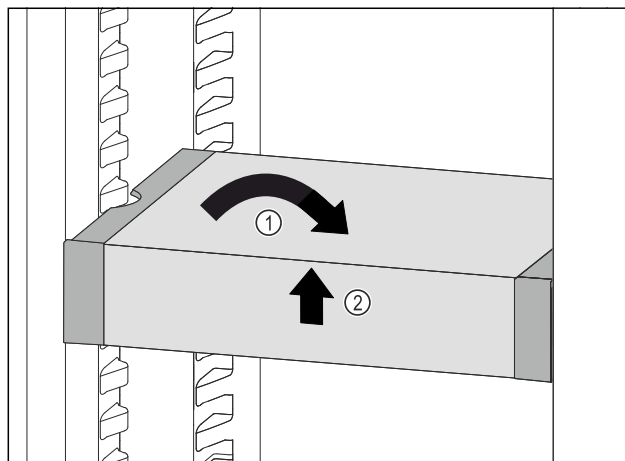

Fig. 99
- ▶ Placer VarioSafe lige. *Fig. 99 (1)*
- ▶ Løft VarioSafe op foran. *Fig. 99 (2)*